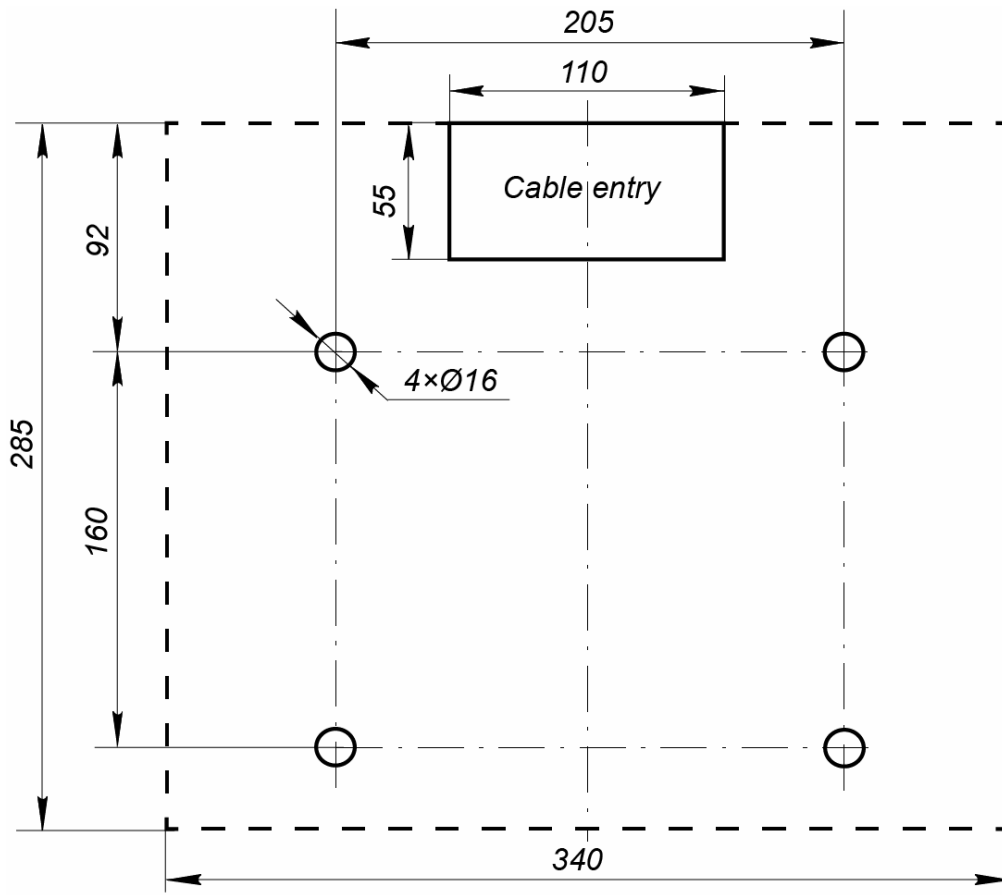

Figure 10. Floor anchor position and cable entries for housing installation (turnstile housing is dotted)
2. Make the holes for anchor bolt (15) sleeves for the turnstile housing installation (Fig. 10).
3. Install the turnstile power supply unit (9) in its place (See power supply unit certificate for installation procedure of the turnstile power supply).
4. If you lay out cables under the floor surface, make an electric raceway to the cables entry zone of the turnstile housing (shown in Fig. 10).